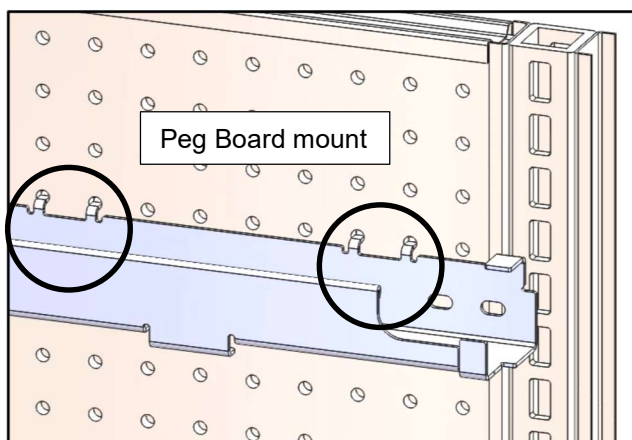

Figure 10
- Peg Board (See Figure 10 & 11).